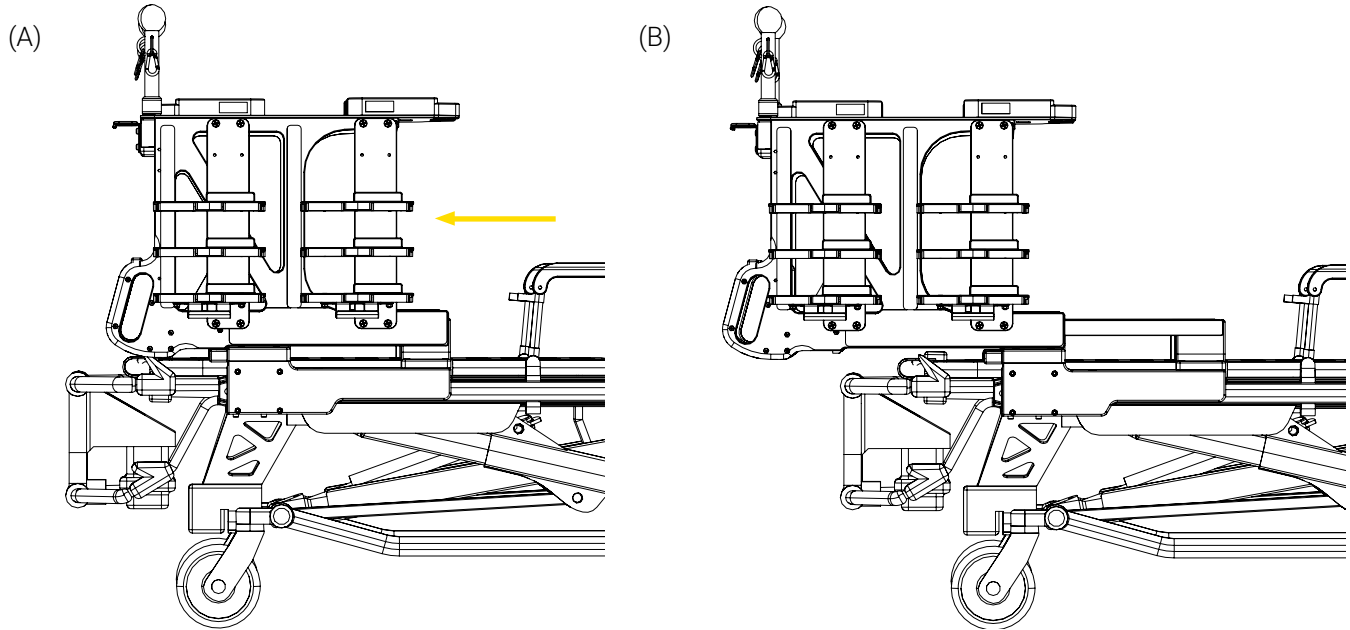

Figure 26: Locking the mobile structure - extended position
10. Pull the mobile structure towards patient foot end until it locks (Figure 26).